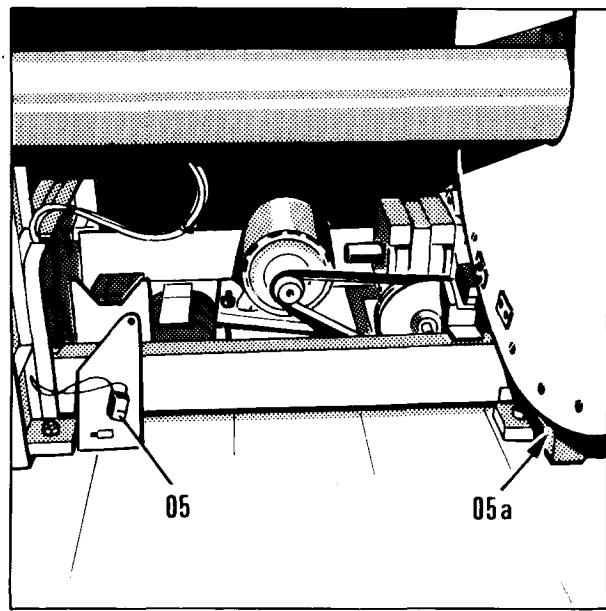

Fig. 17
- Temporarily actuate switches 05 and 05a in (Fig. 17).